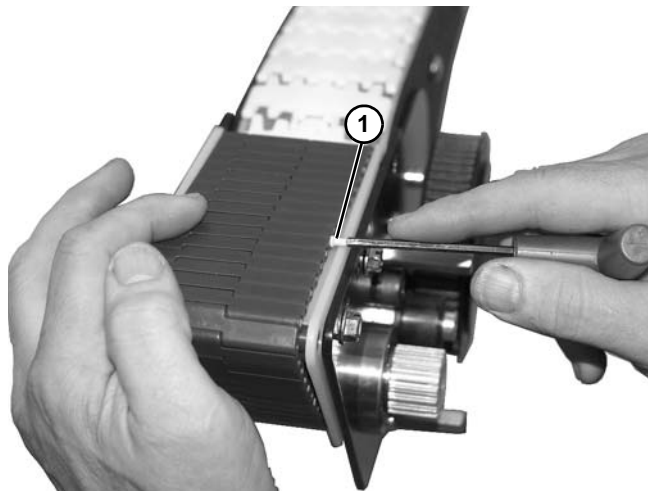

Figure 142
7. Bring ends of belt together and install pin (Figure 142, item 1).